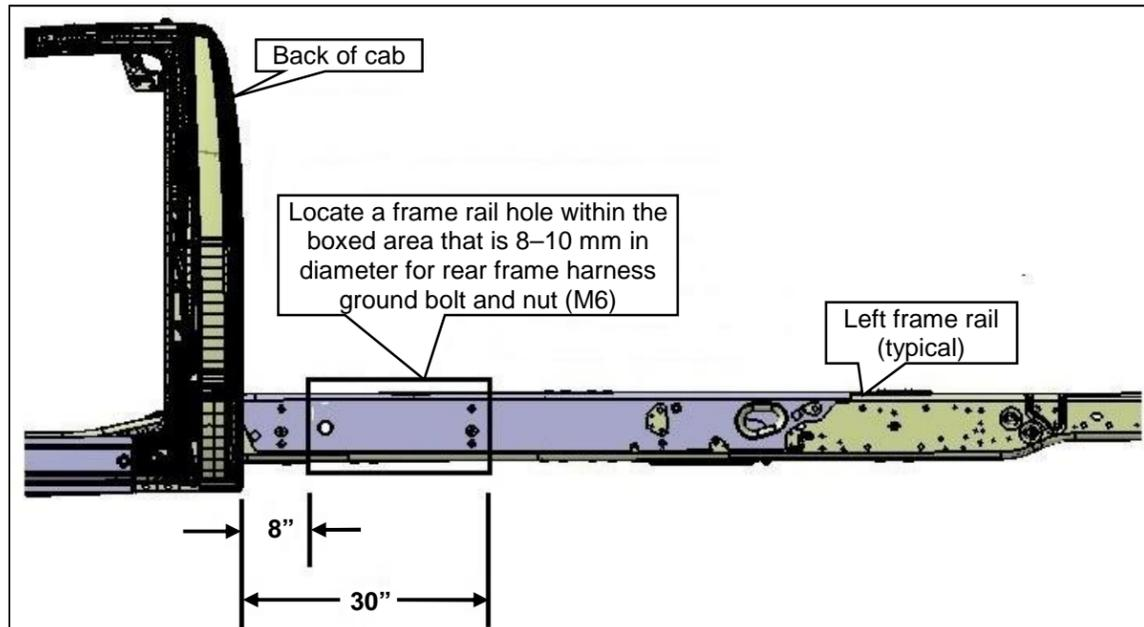
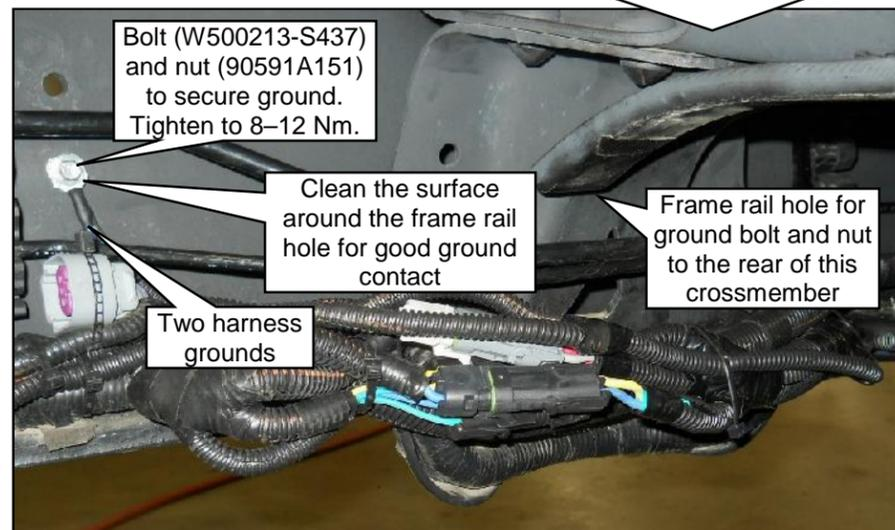

Figure 20.5 — Locate Ground Hole within this Location
Figure 20.6 — Ground Location
15. Connect the rear frame harness ground lead and the fuel tank jumper harness ground lead to the left frame rail using an M6 x 1.0 x 16 bolt and nut. Locate a frame rail hole in the area shown in **Figure 20.5** that will accommodate the M6 x 1.0 x 16 bolt and nut. **Note:** To make sure a good connection to ground is made, remove the paint around the located frame rail hole and under the ground eyelet location. Position the grounds to the hole, install the bolt and nut and tighten the ground to 8–12 Nm. **Figure 20.6.** These parts are supplied in hardware kit P12EB-ELECKIT-A.